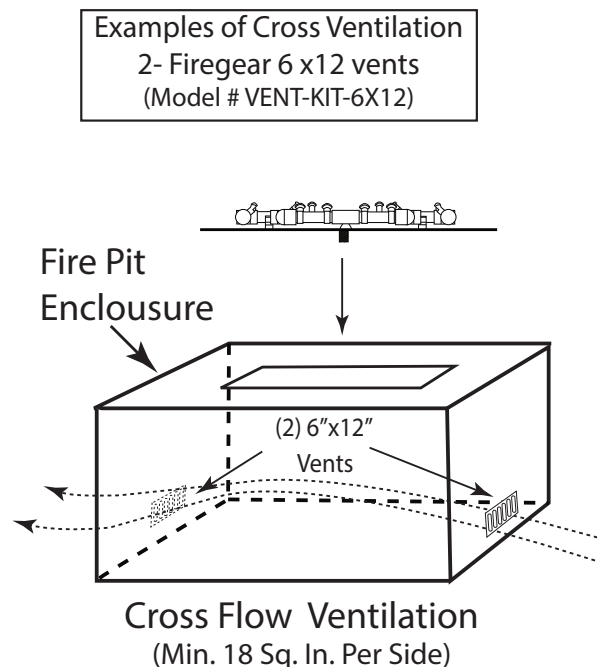

Fig. 3 Cross ventilation example
Fire pits are subjected to many outdoor elements such as rain, snow, wind, heat or cold. **A minimum of 18 square inches (two opposite sides) of cross ventilation is required to keep the components in good working order.** Use Fig. 3 as guide to assist to incorporate proper ventilation.
4. **DO NOT** place an LP tank inside any fire pit enclosure. Locate all Propane (LP) tanks outside the enclosure.
7. **CAUTION: A minimum of 18 square inches of cross ventilation (opposite sides) is required to keep the enclosure dry. See Fig. 3.**